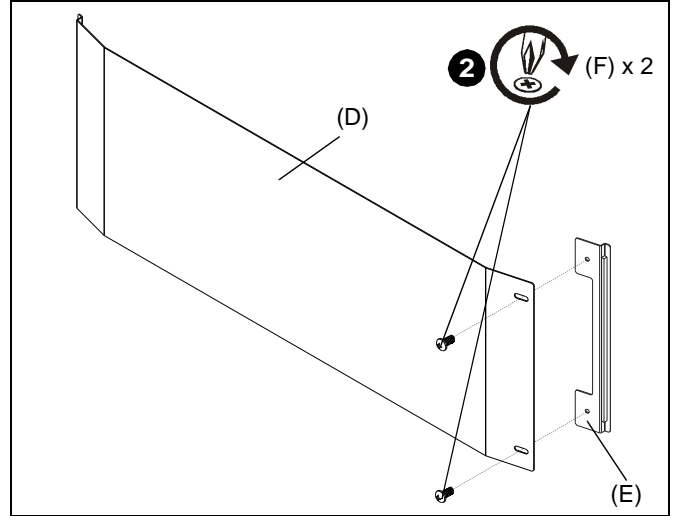

Figure 9
**NOTE:** Installation of dual screen cover (D) is for aesthetic purposes only and is completely optional.
2. Use two #10-24 x 3/8" Phillips tapping screws (F) to secure dual screen cover to slide bracket (E). (See Figure 9)